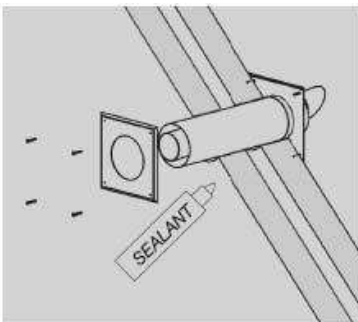

Figure 4.13 Sealing gap
6. Seal the gap around the flue terminal with water resistant sealant or caulk. Install the wall seals around the flue terminal and attach them with the screws provided. See figure 4.13.